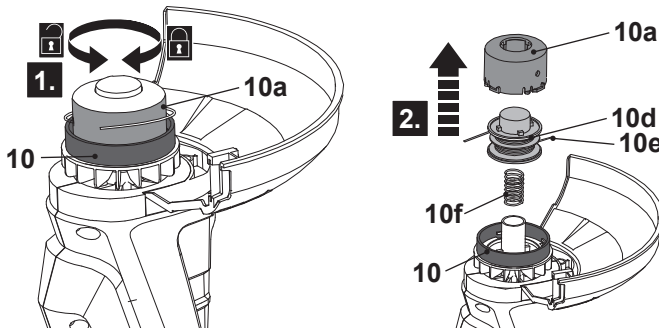

Fig. 14
1. Turn the product upside down to access the trimming head (10).
2. Hold the trimmer head (10) steady with one hand, then loosen the housing (10a) anticlockwise by the other hand and remove it (Fig. 14, step 1).
3. Remove the trimming spool (10d) and the spring (10f) from the trimmer head (10) (Fig. 14, step 2).